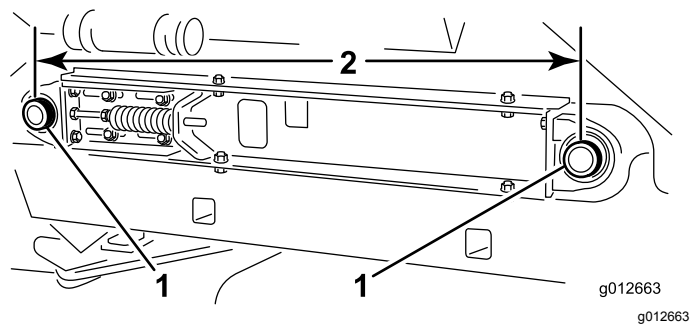

Figure 20
7. Measure the distance between center points of the belt-roller shafts at each side of machine to ensure that the measurements are equal (Figure 20).